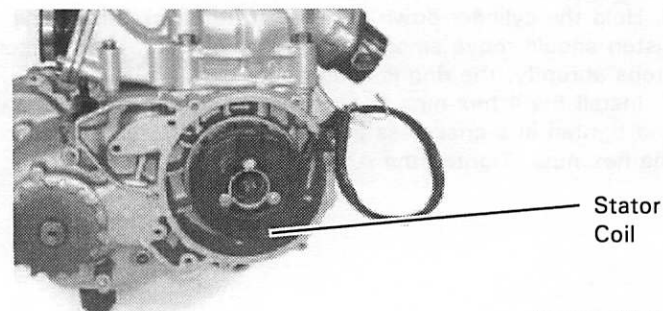

Figure 127
- Install the stator coil (Figure 127) and secure it with its 3 screws and washers. Tighten the screws to 6 N.m (55 in.-lb.).